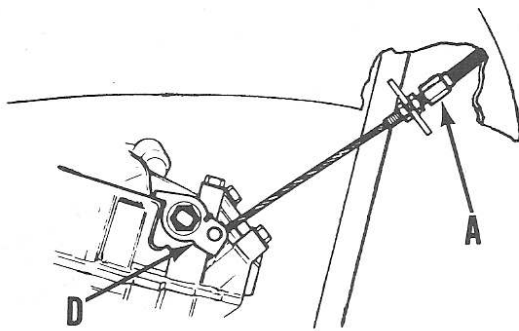

Fig. S6-14—Decompression lever (D) should just contact cylinder head cover when engaged. Adjust cable at (A).
After performing valve clearance adjustment, check and adjust decompression control. Actuate control lever on right handlebar. Adjust the cable at (A—Fig. S6-14) so decompression lever (D) just contacts cylinder head cover.